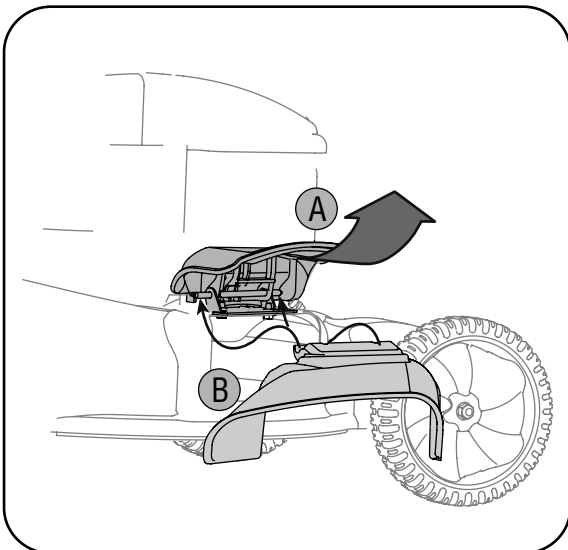

Figure 3-8
- Slide two hooks of side discharge chute under the hinge pin on the mulching plug assembly and lower the side mulching plug. See Figure 3-8.